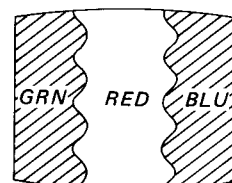

Fig. 4-2.
4. Move the deflection yoke forward, and adjust so that the entire screen becomes red. (Fig. 4-2)